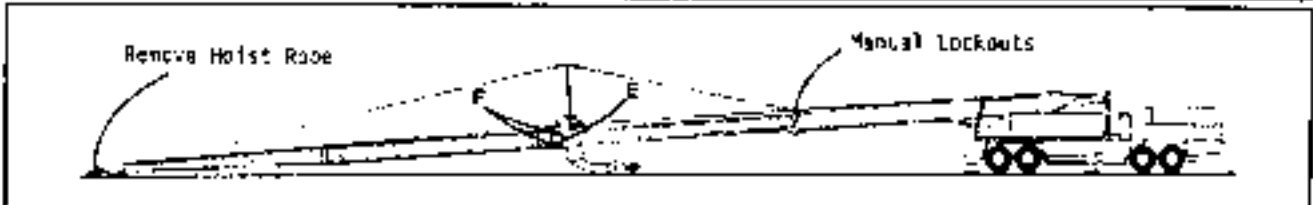

Fig. 4-40
- (e) Remove the four pins at "F" and stop. Pin the jib backstops in working position as shown in Fig. 4-40. With the boom tip section fully extended, engage the manual lockouts.
- (a) Boom down until the jib head sheave gently rests on the ground. Remove the jib hoist rope and spool onto the drum. Refer to Fig. 4-40